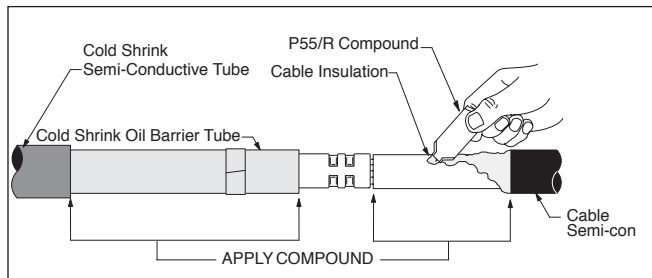

Figure 13
- 5.6 Apply a thin layer of P55/R Compound (red) over the exposed Poly/EPR cable insulation and cold shrink oil barrier tube, making certain to fill in the steps at the cable semi-con and cold shrink semi-conductive tube (*Figure 13*).